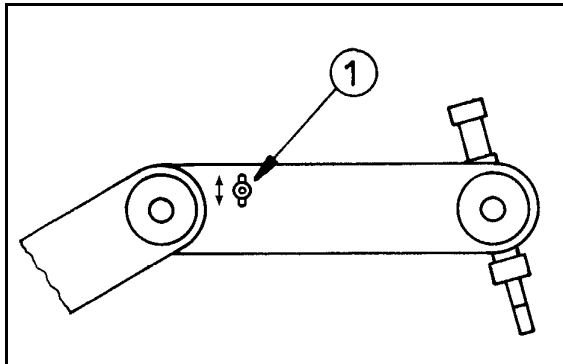

Figure 8-7: Tightening Belts in Forearm
- Figure 8-7 shows how to tighten the belts in the forearm which move the wrist axes (pitch and roll). Loosen the two screws (1) which hold the tension shaft. Press down on the shaft and retighten the screws.